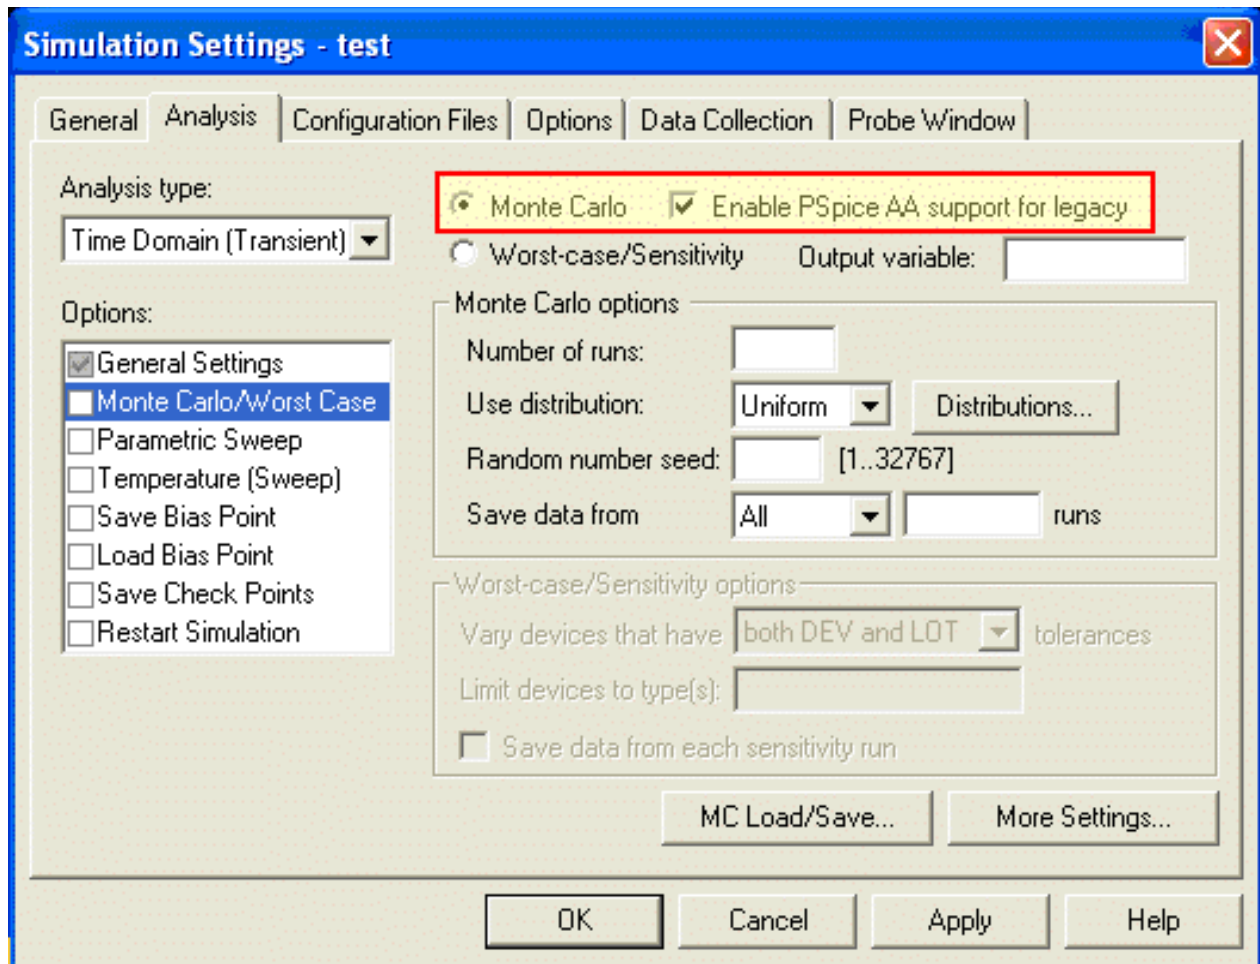

Figure 2-1 Simulation Settings dialog box with Monte Carlo selected
3. Create a PSpice simulation profile as shown in Figure 2-1 on page 40.